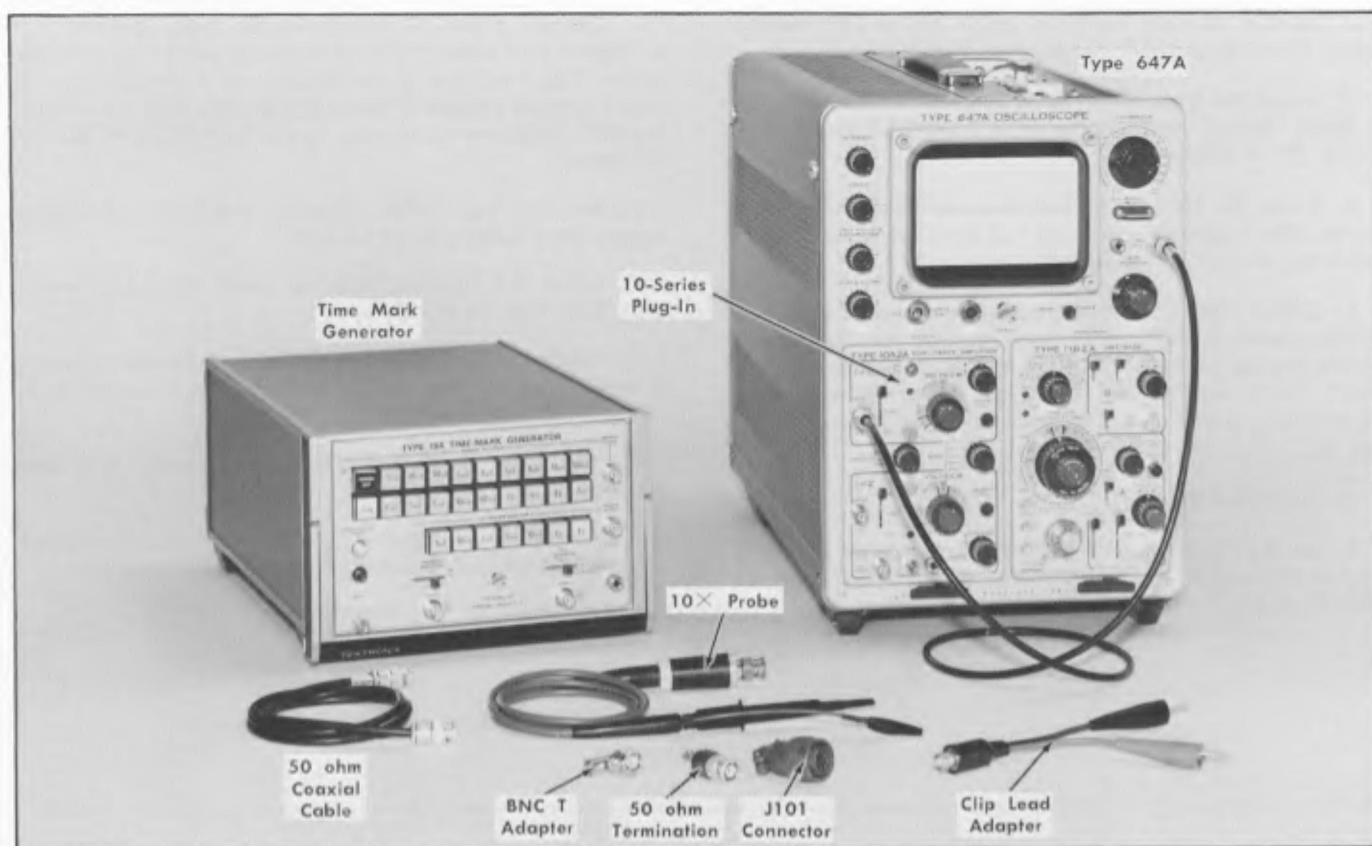

Fig. 6-4. Initial test equipment setup for steps 18 through 33.
- Test equipment is shown in Fig. 6-4.